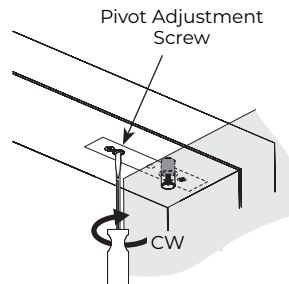

Figure 10
4. With top pivot stud aligned with door portion hole, use a flathead screwdriver to turn pivot adjustment screw clockwise to extend pivot stud into door pivot portion. (Figure 10)